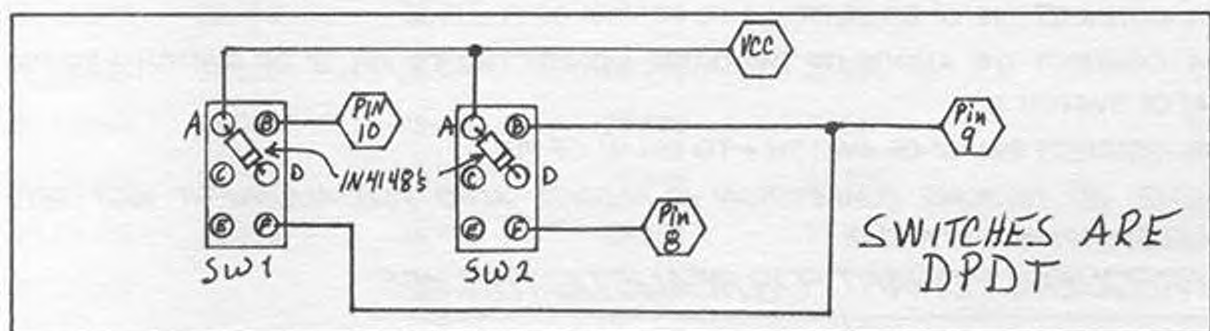

FIGURE 1. TRC-455
- REFER TO FIGURES 1 & 3. PREPARE YOUR SWITCHES AS FOLLOWS; SOLDER A 1N4148 DIODE FROM PINS 'A' TO 'D' ON BOTH DPDT SWITCHES, CATHODES TO PIN 'D'. SOLDER A 1N4148 DIODE TO SWITCH '4', PIN 'B', CATHODE TO PIN 'B'.